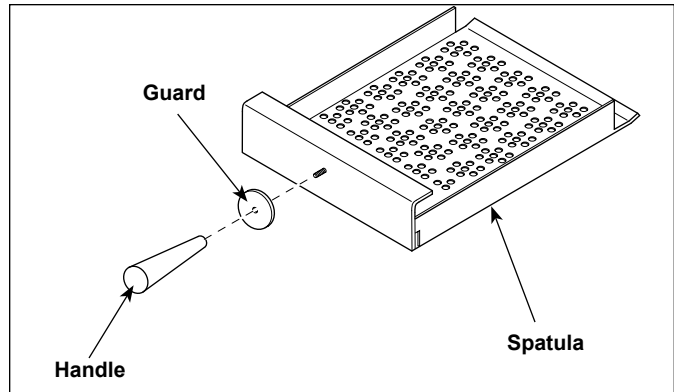

Figure 1. Assembling Handle
4. Assemble the handle, handle guard and mounting bolt to the spatula (Figure 1).